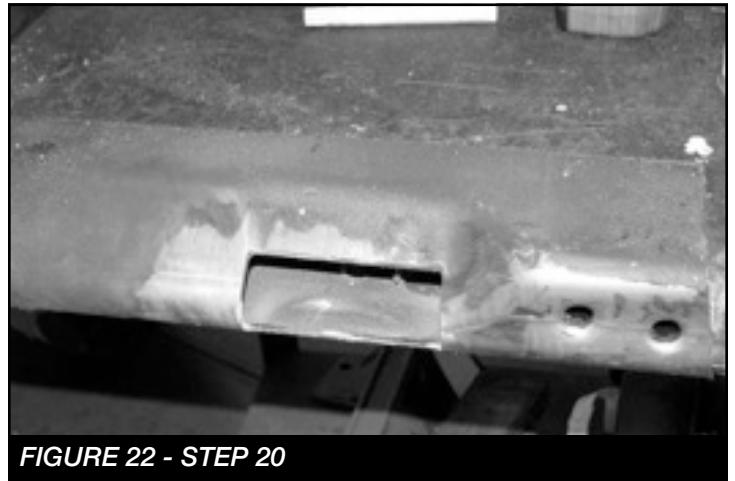

**FIGURE 20 - STEP 19**
19. Using the passenger side differential mount, two 1/2"-13 x 4" bolts, nuts and washers, mount the passenger side of the differential. **NOTE: Run the bolts from the bottom up.** Torque the 1/2" bolts to 127 ft-lbs. **SEE FIGURE 20**